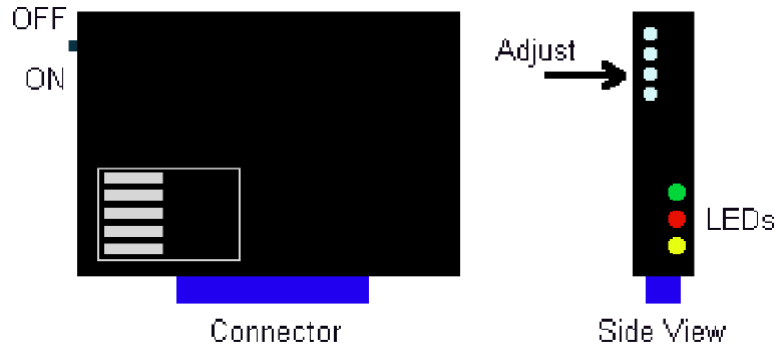

Figure 6-1. UEGO Controller
4. If the signal is higher or lower, adjust the UEGO controller (see Figure 6-1).